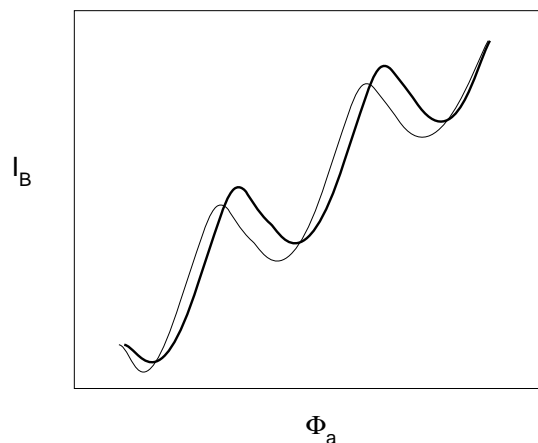

Figure 6.2 Flux vs. current characteristics gets notably skewed if there is leakage due to excess water
- The flux vs. current characteristics gets skewed, see Figure 6.2 Flux vs. current characteristics gets skewed if there is leakage due to excess water.
- When observing the flux vs. current characteristics in the xy-mode, the trace is substantially phase shifted (see Figure 6.2 Flux vs. current characteristics gets skewed if there is leakage due to excess water).